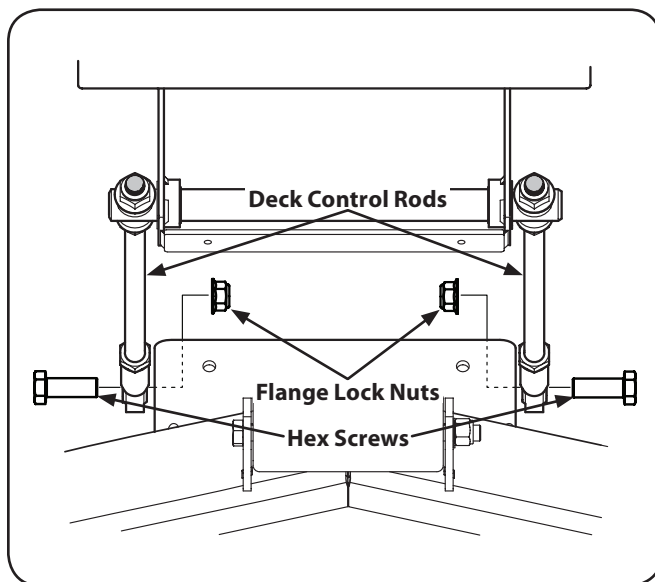

Figure 7-4
6. Remove the hex screw and flange lock nut securing the deck control rods to the deck. See Fig. 7-4.